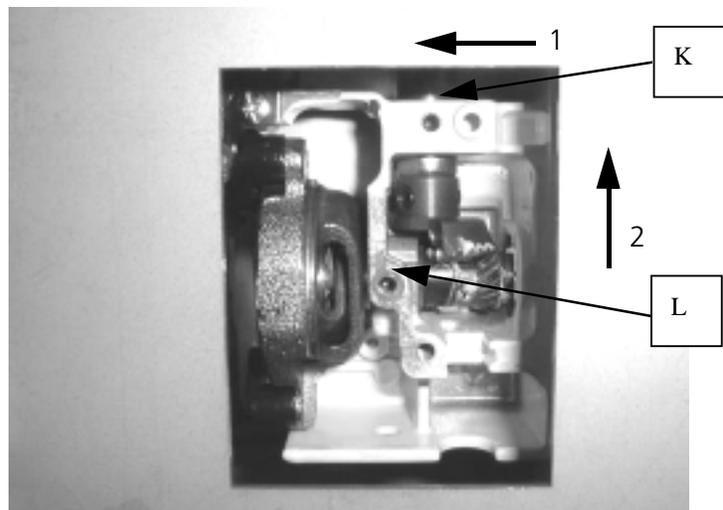

FIGURE 2-6
7. After removing the hook race body cover and hook body, turn the lower shaft gear in the arrow 1 direction as shown in Fig.2-6, loosen socket screw(K), and shift the lower shaft gear rightward in the arrow 2 direction. Loosen socket screw (L) next.